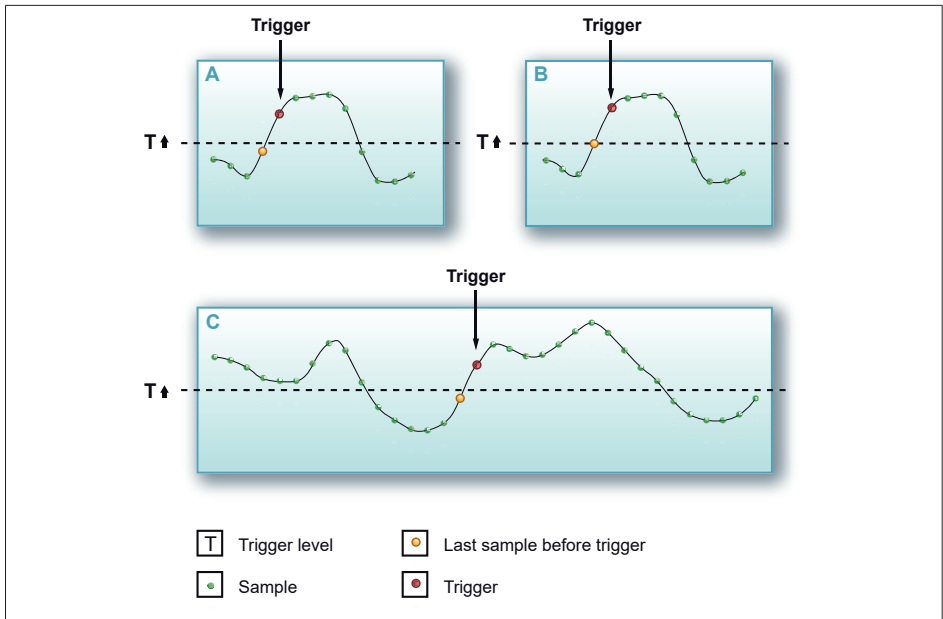

Fig. 10.2 Level crossing detector
Fig. 10.2 shows the basic trigger mode with a specified level (T) and a level crossing in a positive direction. In Fig. 10.2 (A), the trigger occurs on the first sample after the level crossing. Fig. 10.2 (B) shows the situation in which a sample equals the set level. Trigger does not occur until a sample is actually above the required level.
Since the trigger detector requires a level crossing, no trigger occurs when a signal is above the set level when recording starts. This is depicted in Fig. 10.2 (C).